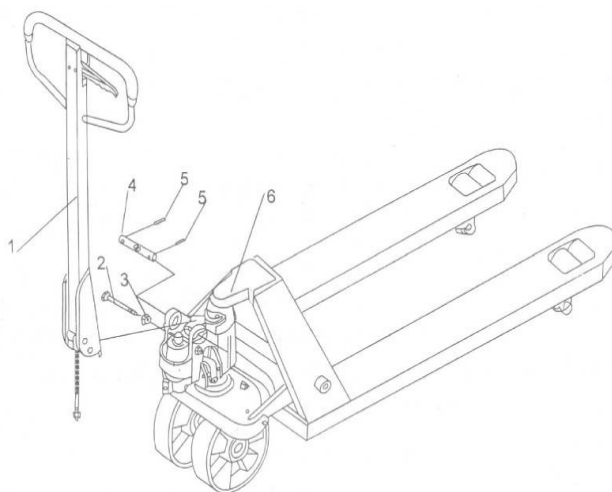

Fig.5 Tiller assembling (symbolic)
- Press the tiller arm down; take away the pin (2, Fig. 5).
- Set the control lever of the handle to 'QUICK LIFT' (LIFT) position, then raise the lever plate with the pin (2, Fig. 5) and insert the adjusting bolt into the front slot of lever plate. Note: Keep the adjusting nut under the lever plate.
e) Use a hammer to insert the 2nd dowel pin (5, Fig. 5) into the 2nd hole of the axle.